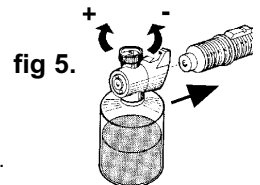

fig 5.
- 4.3.2. Connect the detergent bottle to the lance (fig 5).